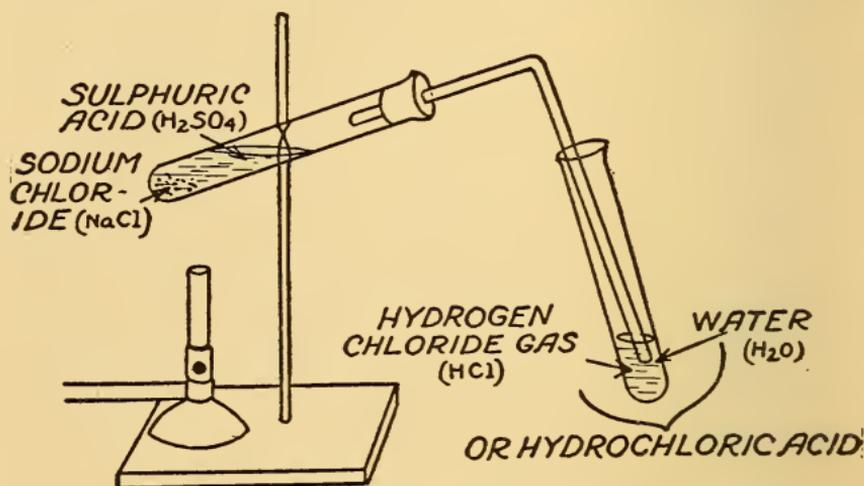

FIG. 29. APPARATUS FOR MAKING HYDROCHLORIC ACID
Fix one end of the bent tube in one of the test tubes with a cork; fasten the test tube to the stand, as shown in Fig. 29, and place the other end in the other test tube into which you have put a little water ( $H_2O$ ). Now hold a Bunsen flame under the first test tube and there will be a direct union of the hydrogen (H) with the chlorine (Cl).